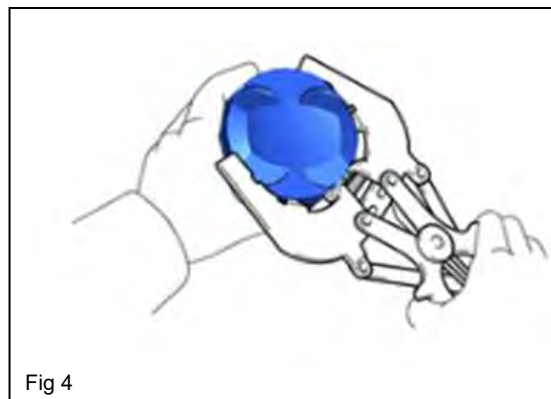

Fig 4
5.1 Install piston rings onto pistons using a piston ring expander. (See the Fig 4)